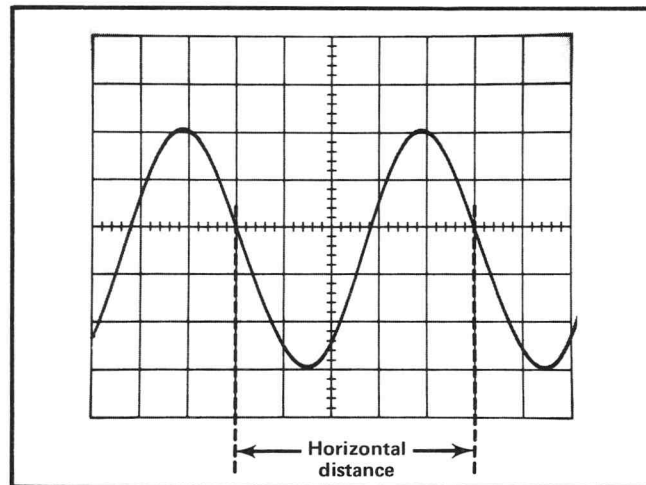

Fig. 3. Measuring the time duration between points on a waveform.
5. Set the TIME/DIV switch to the fastest sweep rate that displays less than eight divisions between the time measurement points (see Fig. 3).
Example. Assume that the distance between the time measurement points is five divisions (see Fig. 3) and the TIME/DIV switch is set to .1 ms.
Example. The frequency of the signal shown in Fig. 3 which has a time duration of 0.5 millisecond is: